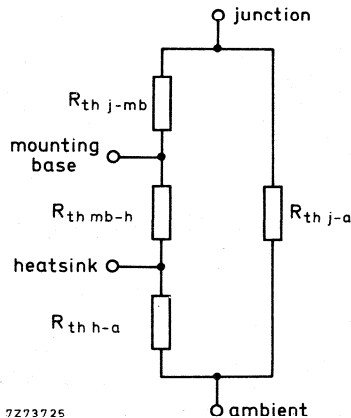

Fig.3
- The various components of junction temperature rise above ambient are illustrated in Fig.3.